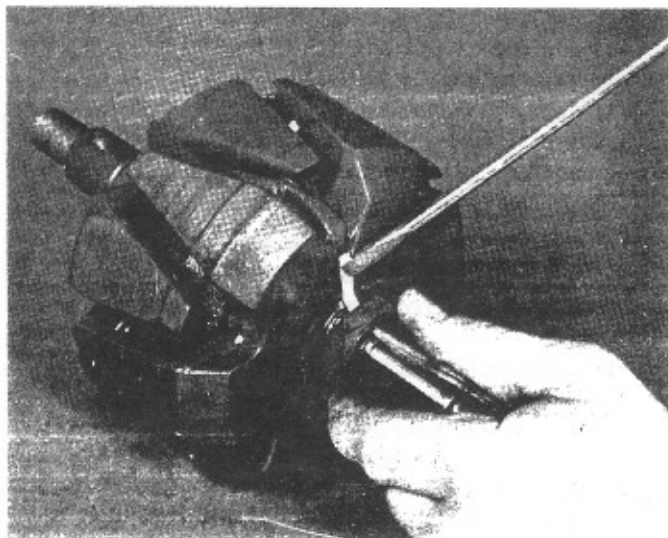

Figure 24
- 2.8 Place insulator strip on top of rotor coil leads, so the leads are protected after the nut is installed. Fig. 24.